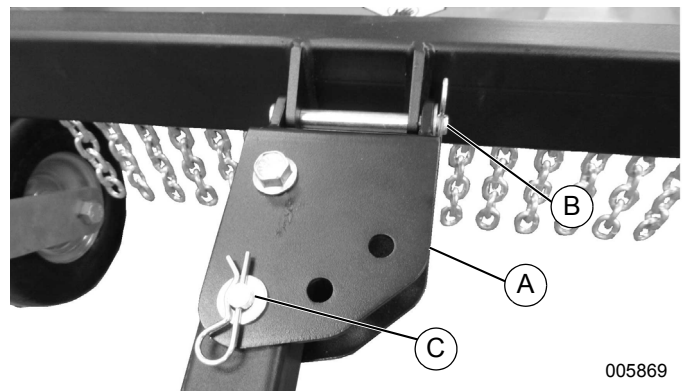

Figure 2-3. Offset Bracket Secured to Push Bar
1. See **Figure 2-3**. Secure offset bracket (A) to push bar with 4.5" long clevis pin, washer, and hairpin (B).